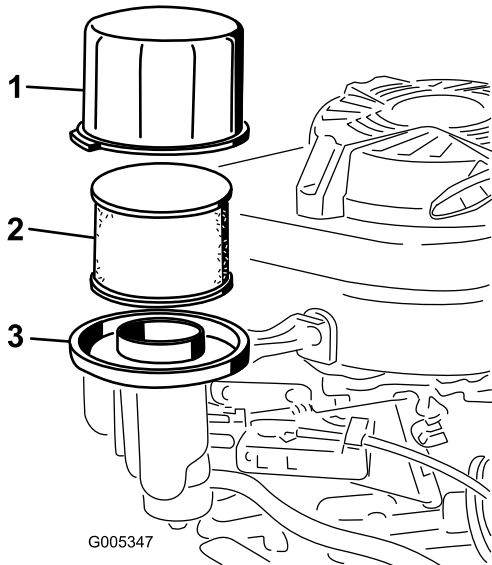

Figure 19
3. Remove the cover and clean it thoroughly (Figure 19).
4. Remove and the foam pre-cleaner and the paper-air filter from the air-cleaner base (Figure 19)